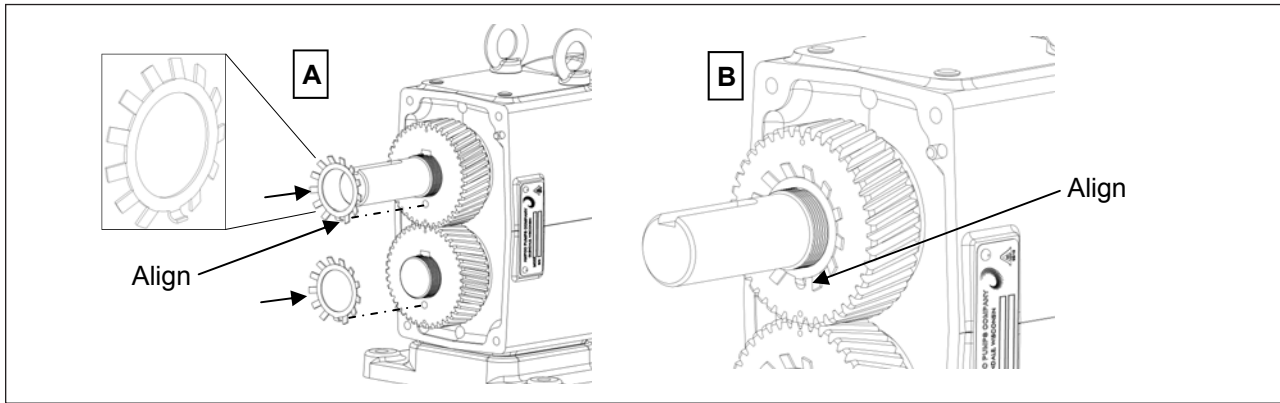

Figure 42. Lock Washer Installation
1. Remove the pump head as described on *page 21* (Pump Disassembly). Remove the bottom oil plug and drain the oil from the gear case (remove oil fill plug for faster drain). Remove the four socket head cap screws from the gear case cover and slide the cover off the drive shaft (*Figure 42*). If the cover is stuck, use a soft mallet to tap around the edges until it breaks free. Using a straight edge, remove the liquid gasket used to seal the cover to the gear case. Remove and discard the oil seal from the cover using an arbor press.